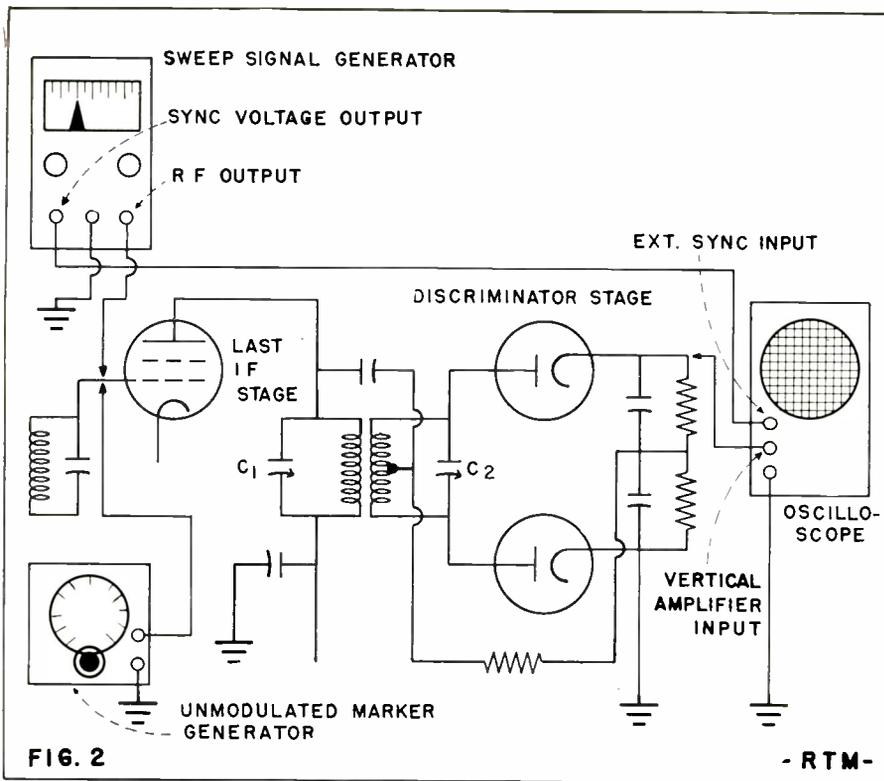

FIG. 2 Method of connecting the sweep generator, marker generator, and oscilloscope for alignment of the FM second detector. See text for alignment procedure.
video IF amplifier may be  $-0.2$  to  $-0.4$  volts. In receivers employing a circuit similar to that shown in Fig. 2, if C-1 shorts in the sync separator and clipper circuit, the sync tube will draw grid current. This will bias the AGC tube to cutoff. Then no AGC voltage will be developed and, since the RF tube and the first and second video IF's are not controlled, their gain will be at maximum. Under the influence of a strong signal, sufficient negative voltage will be developed across the video detector load resistor (usually about 4700 ohms) to drive the amplifier to cutoff.
*FM Detector Alignment; Discriminator:* The following instruments are required for this adjustment: (1) a frequency modulated signal generator covering the receiver intermediate frequency and having a sweep width of at least 300 kc. and sync signal voltage output. (2) A good oscilloscope. (3) An unmodulated signal generator (for providing marker pips on the detector response-curve pattern) tunable from several megacycles below to several megacycles above the intermediate frequency. The instruments are connected to the FM second detector stage in the manner shown in Figure 2.
Fig. 1A shows a typical ratio detector circuit. (1) Connect the vertical amplifier input terminals of the oscilloscope between points X and ground. (2) Connect the signal generator and marker generator to the grid of the last IF tube, as shown in the discriminator circuit, Fig. 2. (3) Adjust the trimmers or tuning slugs of the ratio detector transformer to give a symmetrical alignment pattern such as is shown in Figure 3.